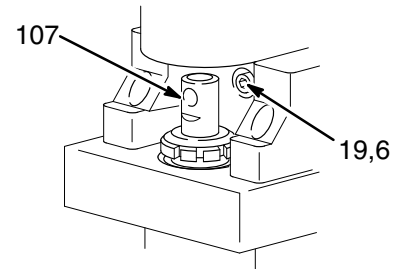
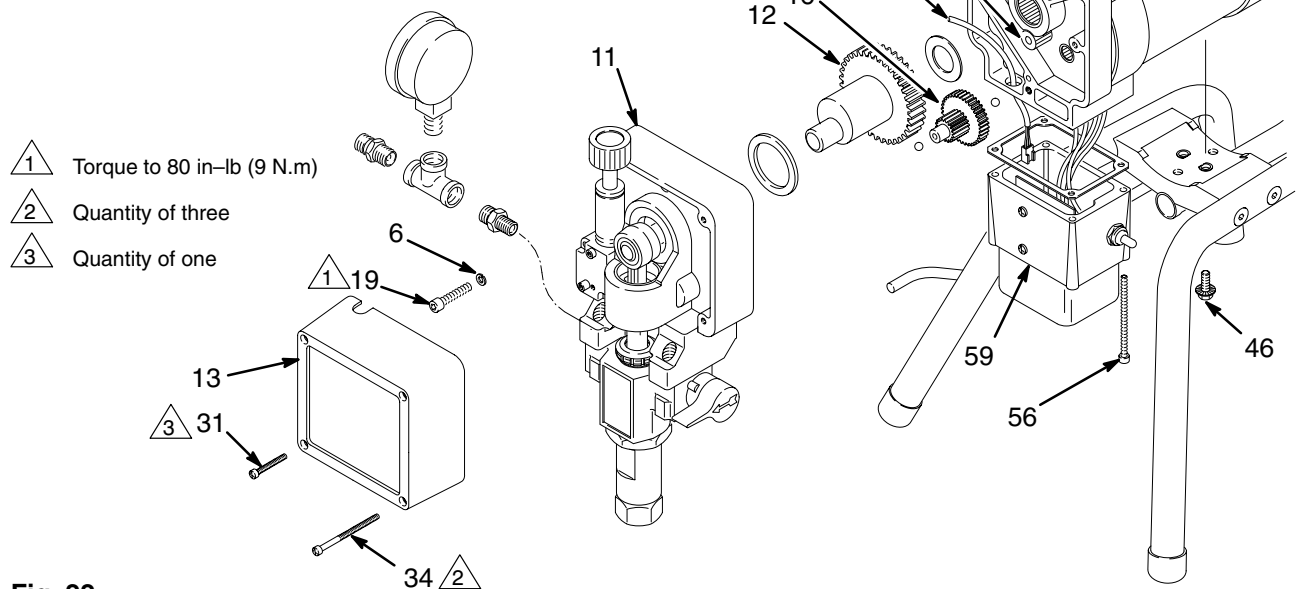

Fig. 21
Fig. 22
**NOTE:** See Fig. 22 except where noted.
4. Remove the front cover (13).
5. Turn the displacement pump rod (107) so the pin hole aligns with the bottom drive housing screw (19). See Fig. 21. Remove the three drive housing screws and lockwashers (19,6). Also see Fig. 22.
6. Remove the two motor screws (5) and the lock washers (6).
7. Tap the lower rear of the drive housing (11) with a plastic mallet to loosen the motor. Pull the drive housing straight off the motor while guiding the harness (A) from the motor. Do not allow the gear (16) to fall. Read the CAUTION on page 25.
8. Remove the two screws (46) and lift the motor off the base (66).
9. Align the new motor with the base and reinstall the screws (46).